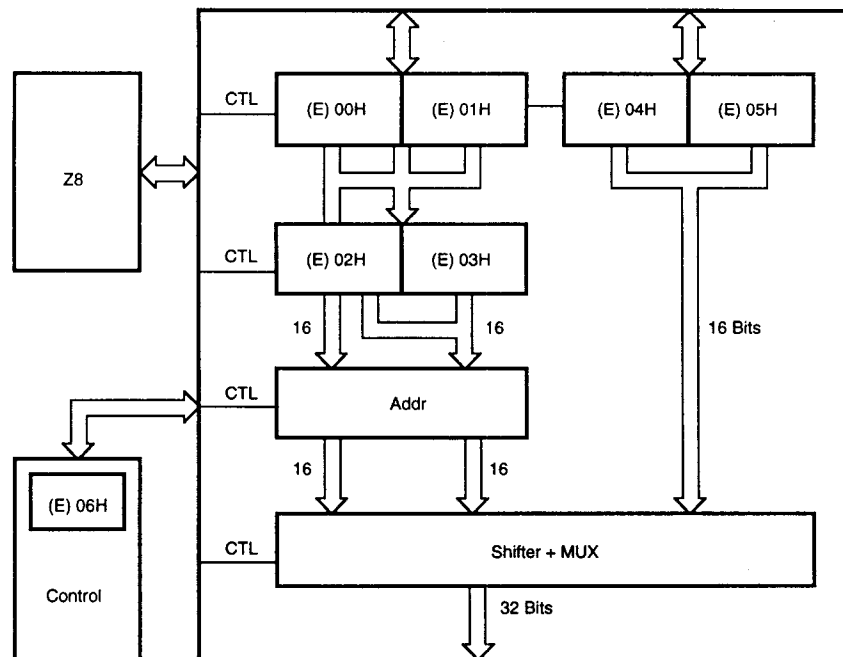

Figure 16. Multiply/Divide Unit Block Diagram
**Interface to Z8.** The following is a brief description of the register mapping in the multiply/divide unit and its interface to the Z8 (Figure 16).
Control register. The MDCON (Multiply/Divide Control Register) is used to interface with the multiply/divide unit (Figure 16). Specific functions of various bits in the control register are given below.